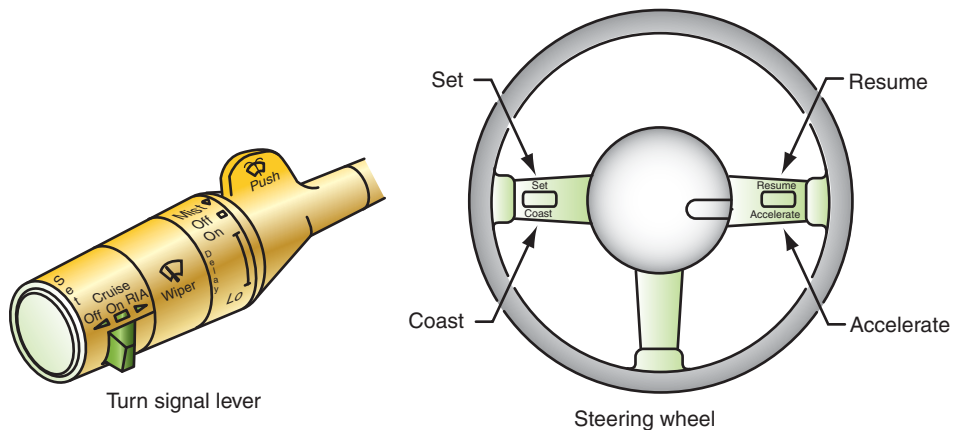

FIGURE 14-77 The control switch can be mounted on the turn signal stock or into the steering wheel. The switch is used to provide driver inputs for the system.
2. The control switch (Figure 14-77): Depending on system design, the control switch contacts apply the ground circuit through resistors. Because each resistor has a different value, a different voltage is applied to the control module. In some systems, the control switch will send a 12-volt signal to different terminals of the control module.